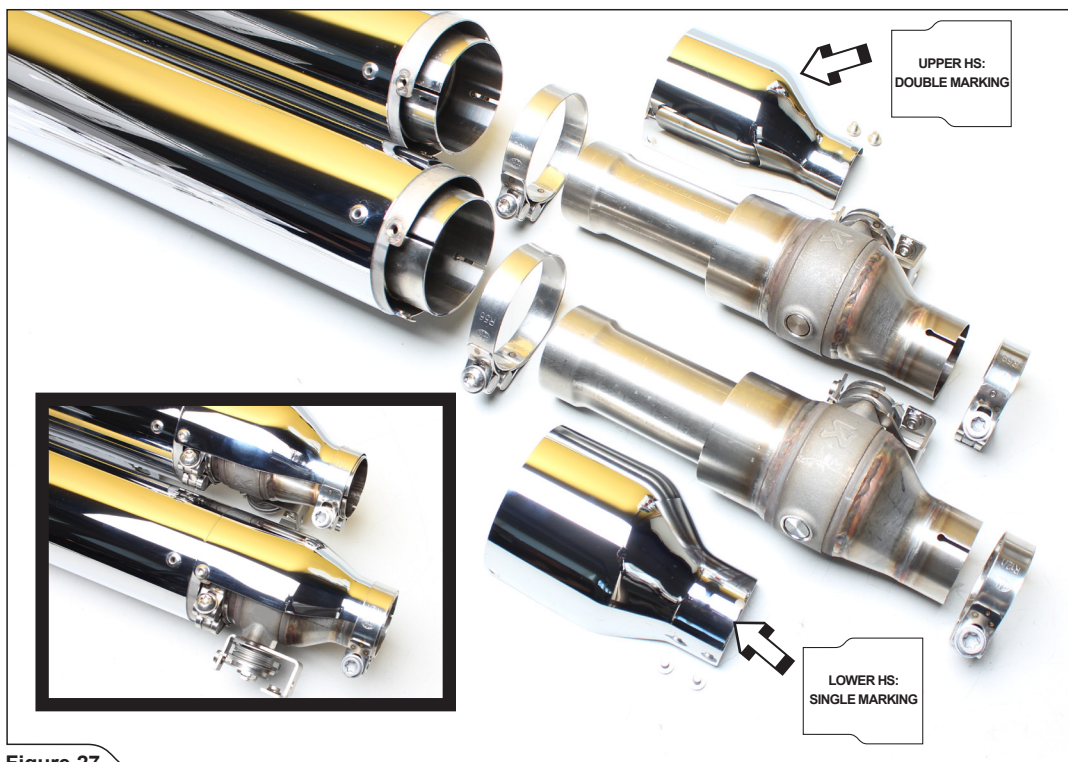

Figure 27
6. Correctly assemble the mufflers, link pipes, clamps and heat shields (Figure 27).